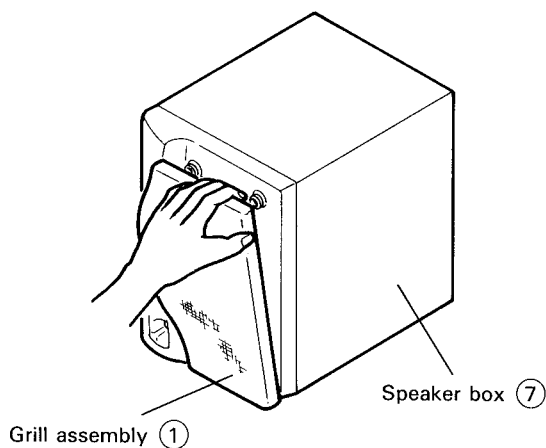

Fig. 7-23
1. Remove the grill assembly ① by hand (Fig. 7-23)